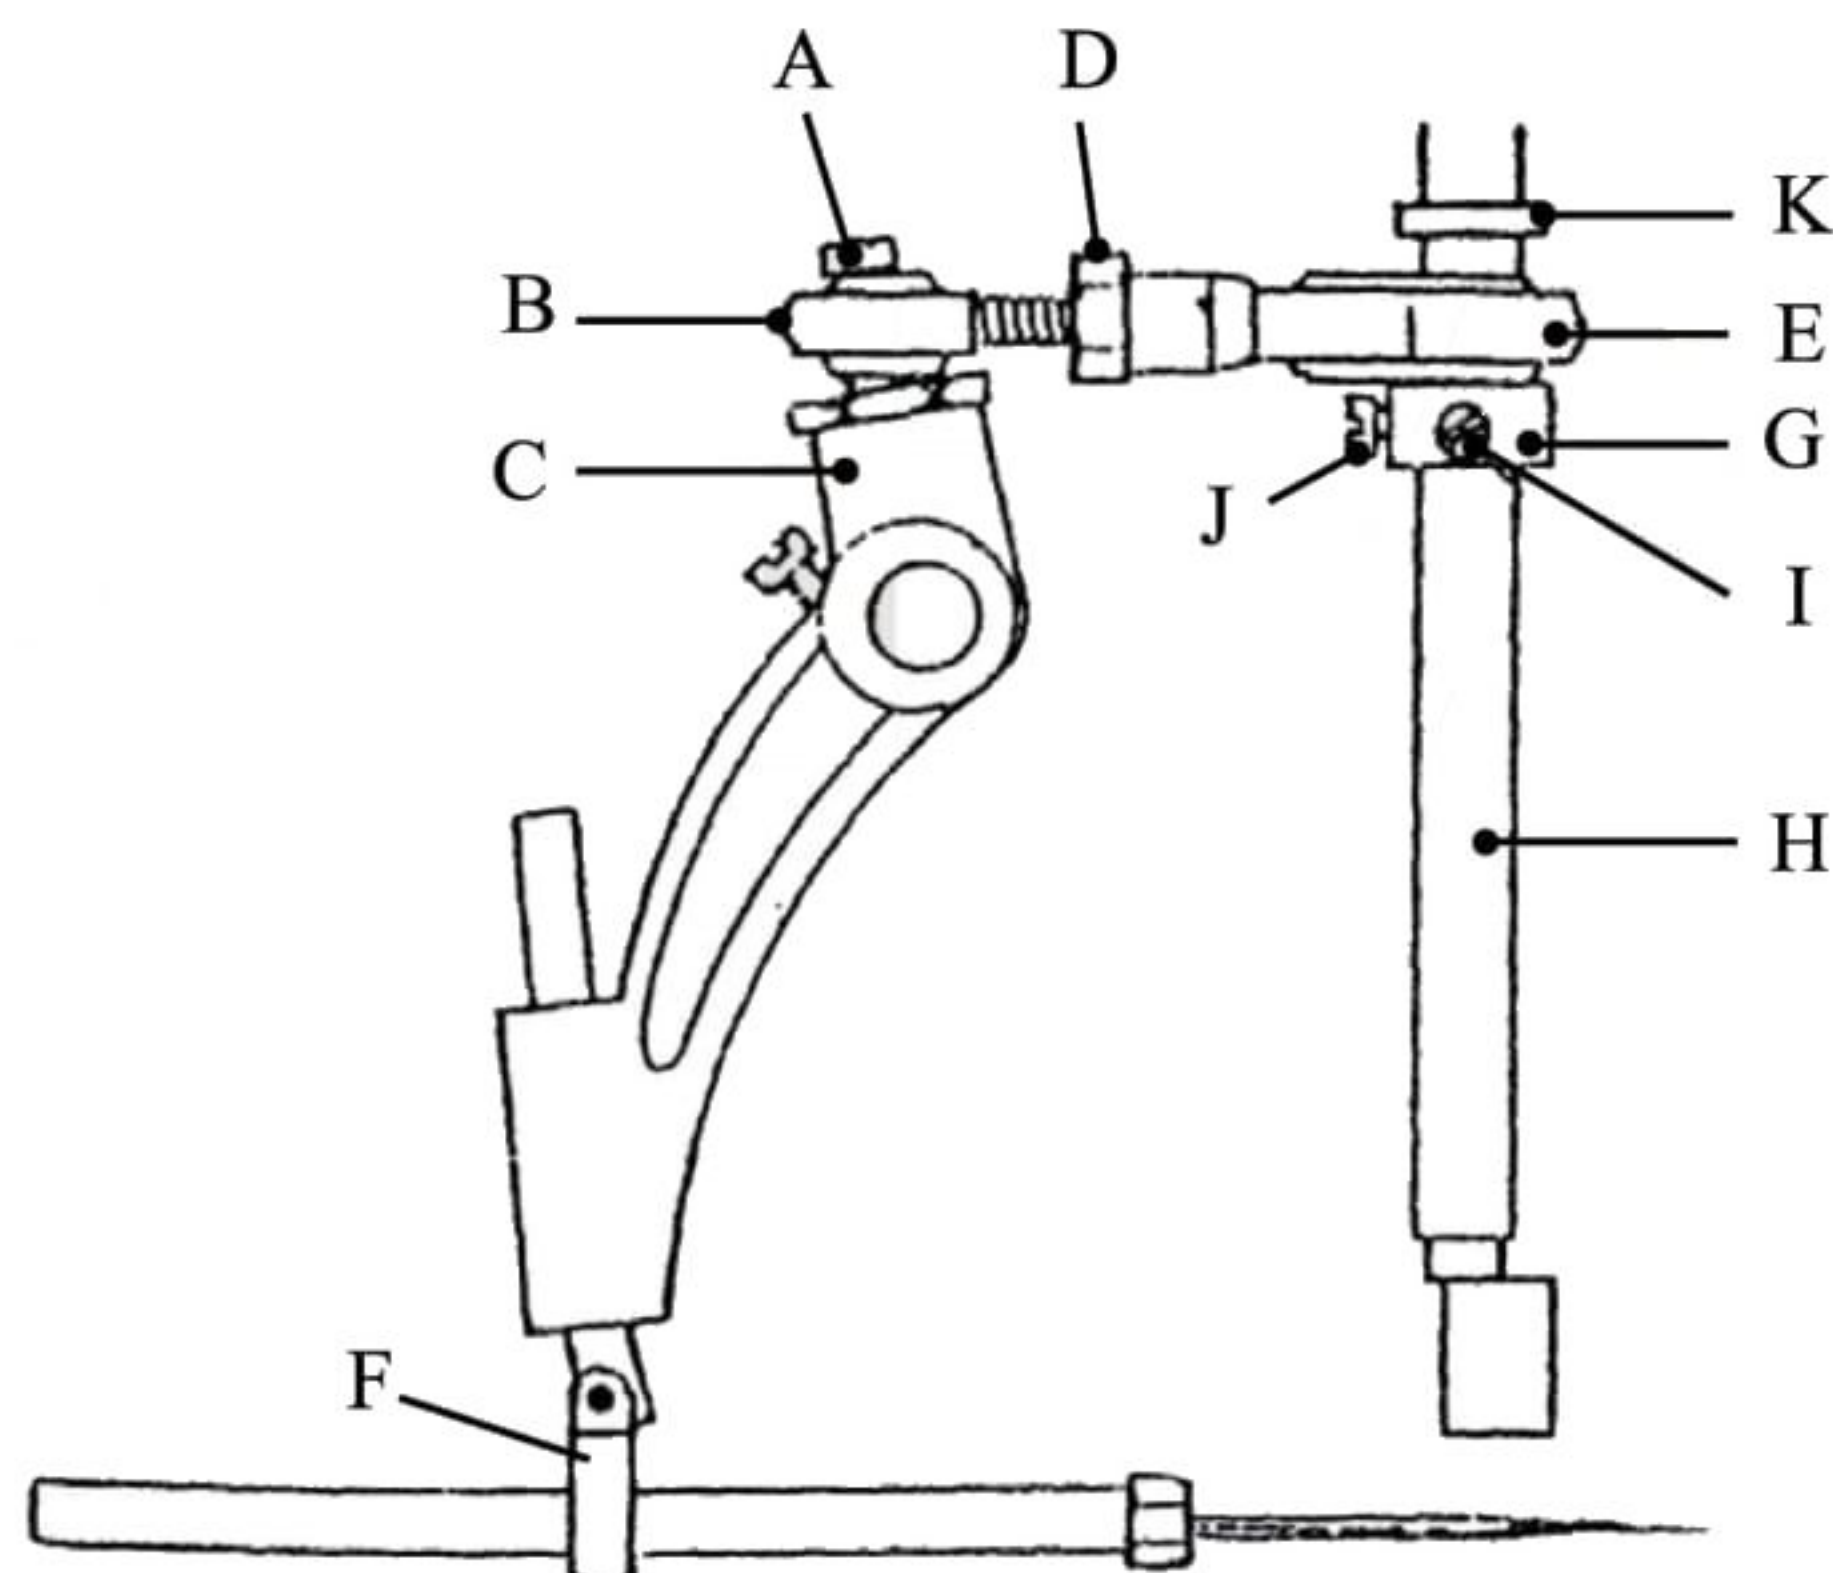

FIG. 11
E. The replacement and adjustment of eccentric linkage. (See also Fig. 11)
- a. Loosen screw (A) to separate the end bar (B) from the arm of needle bar (C), then loosen nut (D) in order to adjust the distance between linkage (E) and end bar (B). In general the appropriate distance is about 9~9.3 mm, and the stroke of needle bar is about 37.5~39 mm.
- b. Fix the eccentric cam (G) on the main shaft (H), and tighten screw (I) & (J) to make the eccentric cam slightly touch the spacer (K).